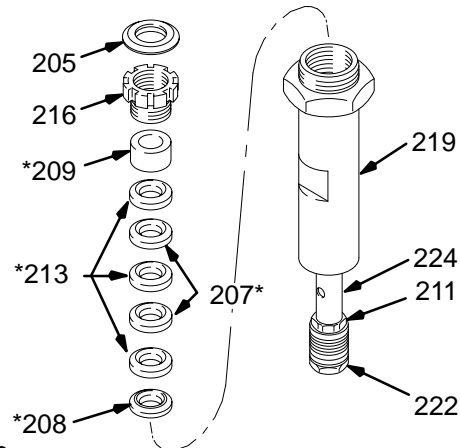

Fig. 12
2. Remove the plug (205). Unscrew the packing nut (216). See Fig. 12.
3. Tap the piston rod (224) down and then pull it out the bottom of the cylinder (219). See Fig. 12.
4. Remove the throat packings. See Fig. 12.
5. Clamp the flats of the piston rod (224) in a vise. Loosen the piston (222). Unscrew the nut (211) from the piston. Remove the piston packings.